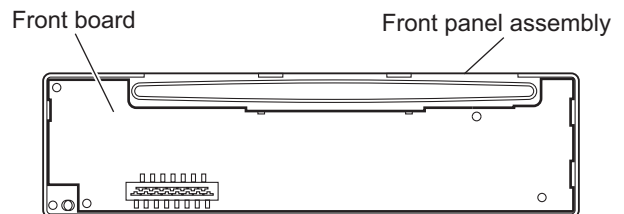

Fig.10
- (3) Take out the front board. (See Fig.10)
3.2.5 Removing the clamper assembly (See Figs.10 and 11)